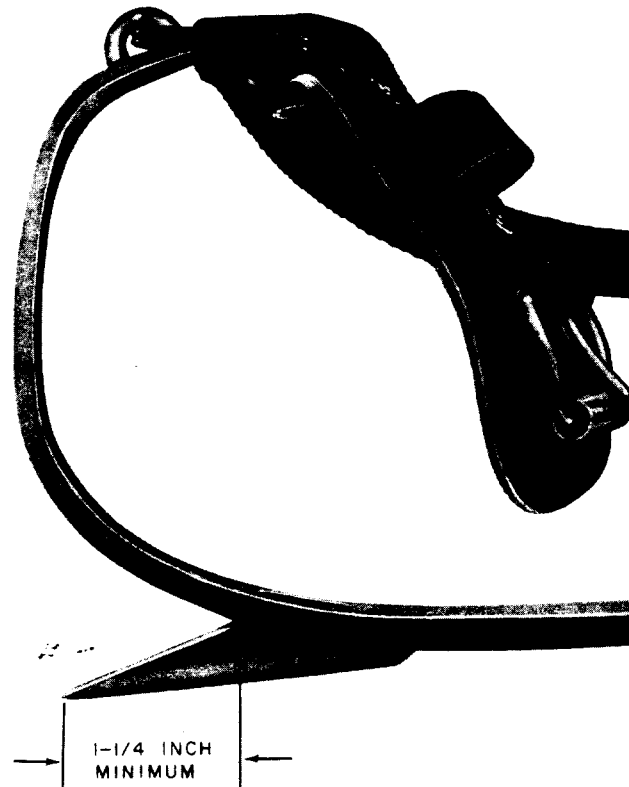

Fig. 22—Gaff Sharpened to Minimum Length
7.07 When climbers require sharpening and the desired sharpness to pass the cutout test cannot be obtained by honing (paragraphs 7.02 through 7.05), the employee should exchange them for a pair of factory sharpened climbers. Remove the E climber foot strap (paragraph 3.11), the B climber straps (paragraph 3.12), pads, and sleeves and equip the climbers to be returned with gaff guards. Permanently attached foot straps should remain on the returned climbers. The solid ring will then be replaced with a split ring. Tape or otherwise tie them together. Figure 22 illustrates a climber that has been machine sharpened a number of times to the ***minimum length that shall be used.***